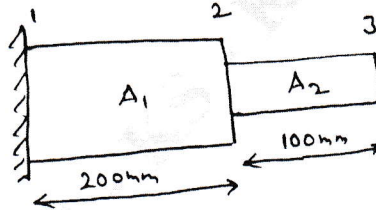

Fig Q10
- 10 Evaluate eigen vectors and eigen values for the stepped bar shown in Fig Q10. Take $E = 200\text{GPa}$ and specific weight 7850 kg/m^3 . Draw mode shapes, $A_1 = 400\text{mm}^2$, $A_2 = 200\text{mm}^2$.